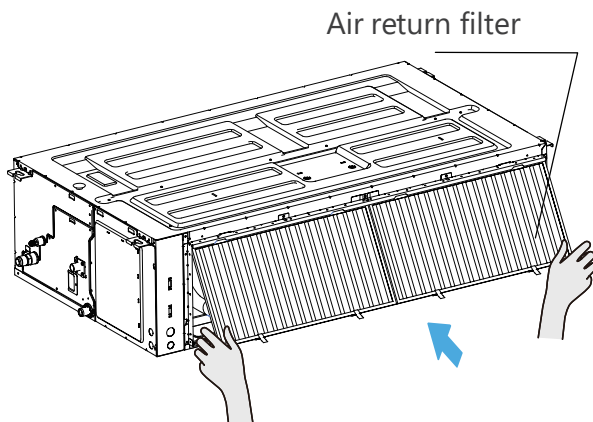

Fig. 3-2: Install The Filter Mesh
3. When installing the filter mesh, fit it into the flange as illustrated in Fig. 3-2.